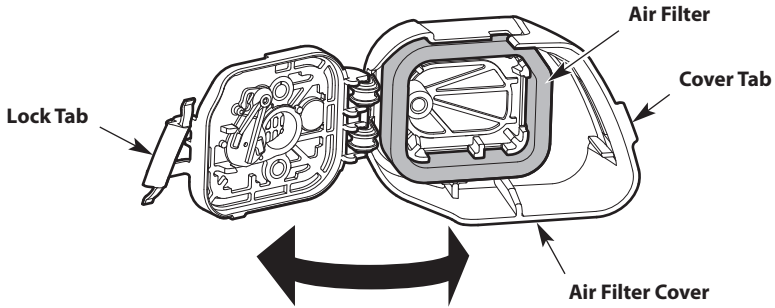

Fig. 18
1. Open the air filter cover: Hook your fingers behind the cover tab. To unlock the air filter cover, pull it to the left and away from the engine. This may require a firm pull. Swing the air filter cover to the right (Fig. 18).
2. Remove the air filter from inside the air filter cover (Fig. 18).
6. Reinstall the air filter inside the air filter cover (Fig. 18).
7. Close the air filter cover: swing the air filter cover to the left and press it closed until the lock tab snaps into place (Fig. 18).